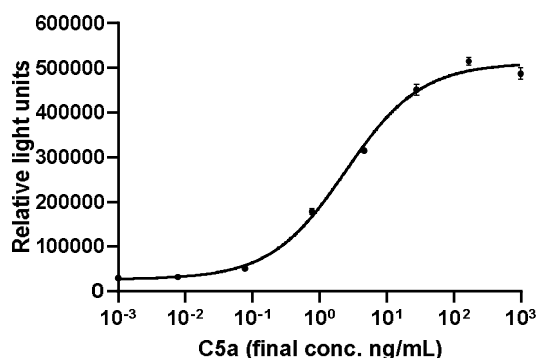

Figure 1. Example of C5a calibration curve.
The *iLite*[®] C5a Assay Ready Cells are engineered cells, optimized to express Firefly luciferase (FL) under the control of a C5a responsive promoter and exhibits a dose-dependent increase in firefly luciferase (FL) reporter gene activity following treatment of cells with increasing concentrations of human C5a. (Fig.1). The cells also contain the Renilla luciferase (RL) internal standardization gene under the control of a constitutive promoter that renders assay results independent of cell number and provides a means for correcting for cytotoxic effects that may be encountered with some biological samples. Some increase in RL reporter-gene activity may be observed, however, at high non-physiologic concentrations of C5a and consequently normalization of C5a-induced FL activity relative to the expression of RL activity is not recommended for routine use. Normalization of C5a-induced FL activity relative to the expression of RL activity remains, however, a valuable means of correcting for sample cytotoxicity. The luciferase signals can be measured in a luminometer following addition and incubation of luciferase substrate.